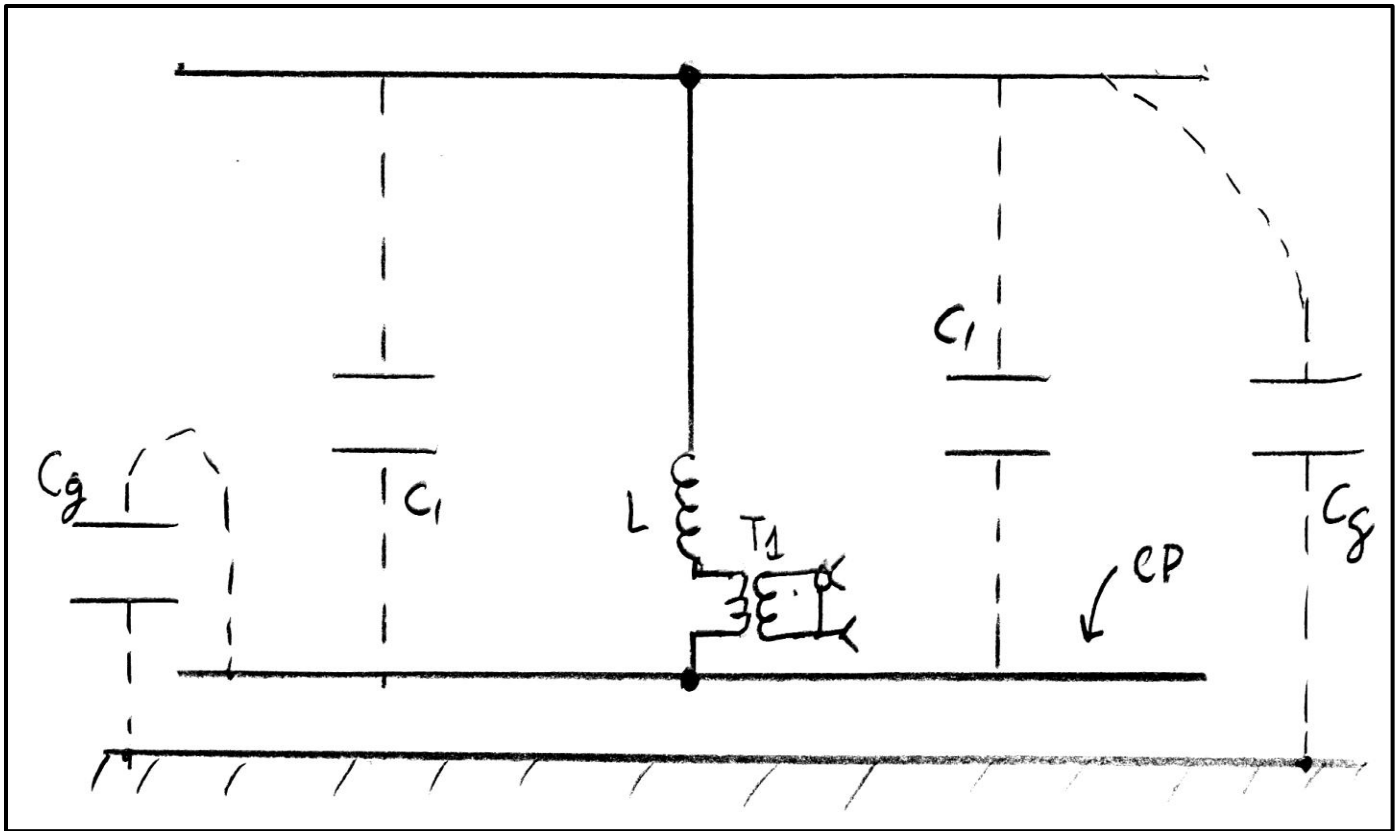

Figure 2 - Short top-loaded vertical with a single wire counterpoise.
The CP doesn't need to be that complicated, it can be as simple as a single wire like that shown in figure 2. What we have is a vertical wire of some length, usually much less than $\lambda/4$. To help resonate the antenna we add a horizontal top-wire(s) to provide capacitive loading. At the bottom we add a similar wire which we call the CP but that's a bit misleading. The whole system of wires, vertical and horizontal is the antenna which happens to be close to ground. What we have is simply a large capacitor which will radiate if excited. The capacitance has two components: between the top-wire and the CP (C_1) and from the top-wire, the vertical and the CP to ground (C_g). Currents flowing in the soil via C_g result in ground loss. the larger we make the CP the small C_g will be. Once we have as much vertical height, top-loading and CP the antenna will probably still not be resonant so we have to add a "tuning" or "loading" inductor (L).
We have one more problem: the feed/matching network has to be isolated for several kV from ground! This problem is indicated by T1 in figure 2. There are many different options so T1 just serves as a reminder of the need for isolation. A later section discusses options and my particular solution.